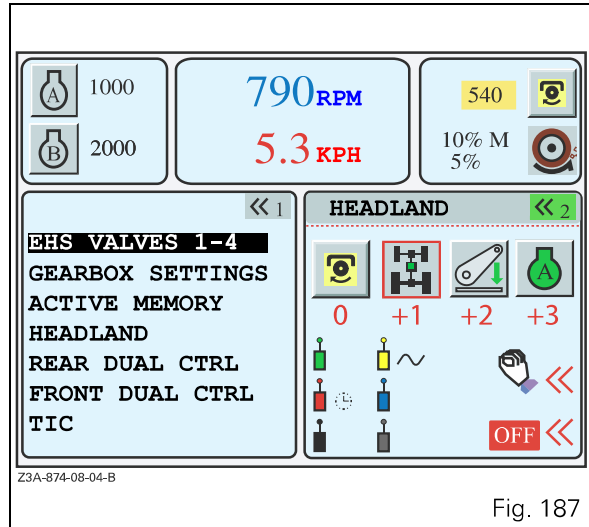

Fig. 187
- When the window (Fig. 185) is open, press the key <<3>. The window (Fig. 187) is displayed.